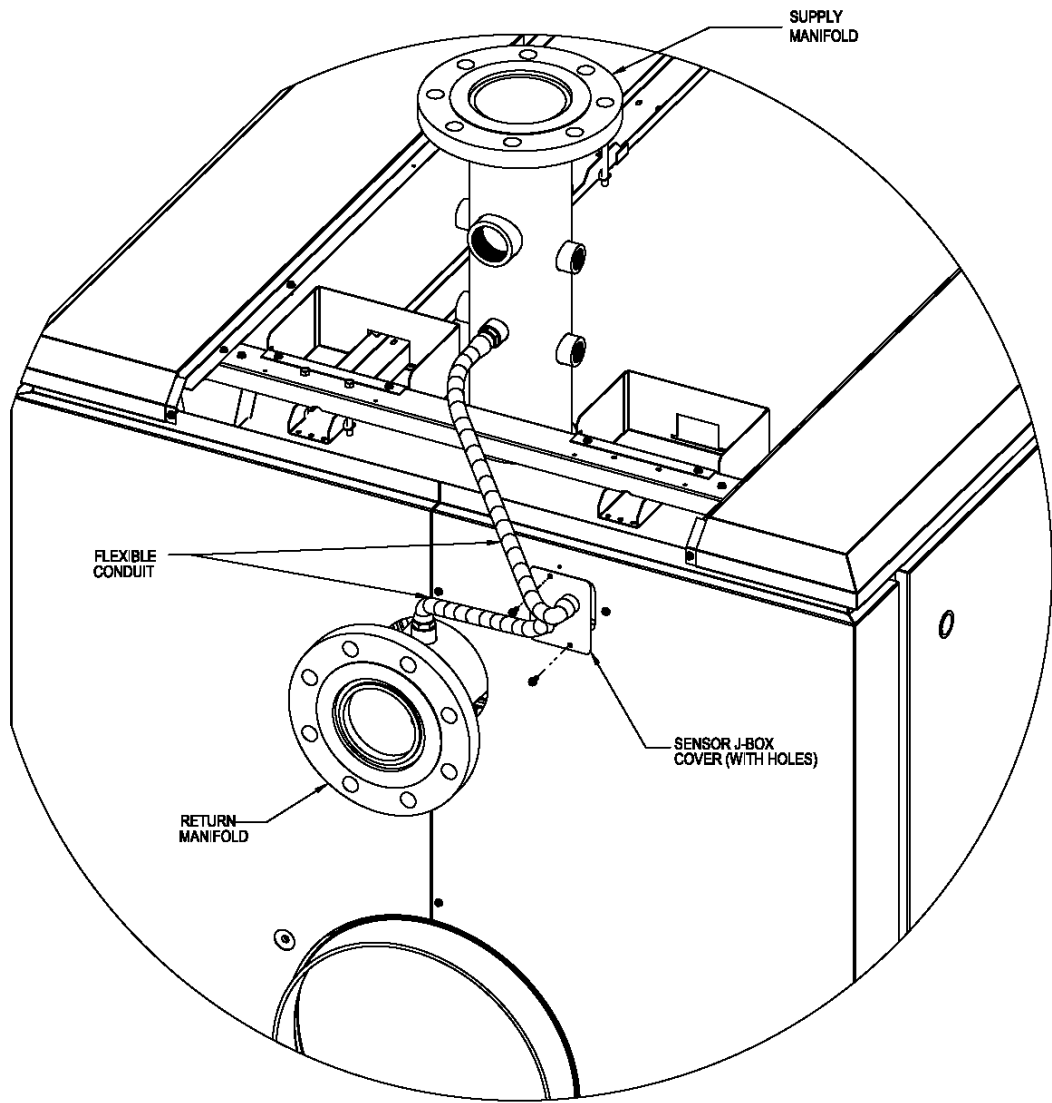

Figure 2: Installation of SBC Components (Part 2)
- d. Mount the sensor J-box cover to the right rear panel using two (2) of the #8 x ½" lg. hex head SMS provided. See Figure 2. Make sure that all of the exposed wires fit inside of the sensor J-box and that none of them are pinched once the cover plate is installed.